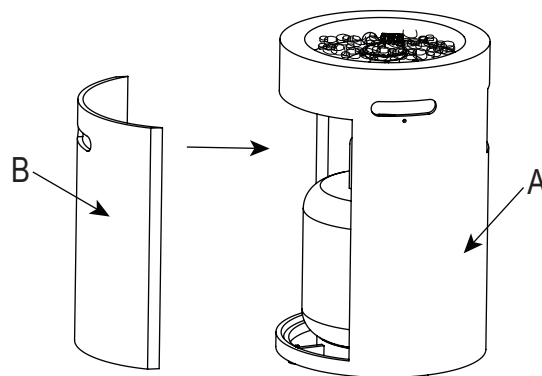

Figure 4
- Attach the door (B) with fire table (A) tenderly, (See Figure 4).